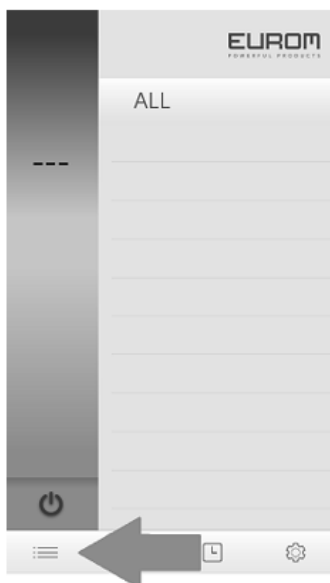

Figure 1
- Go to the button at the left-hand bottom corner of the Home screen (Fig. 1).